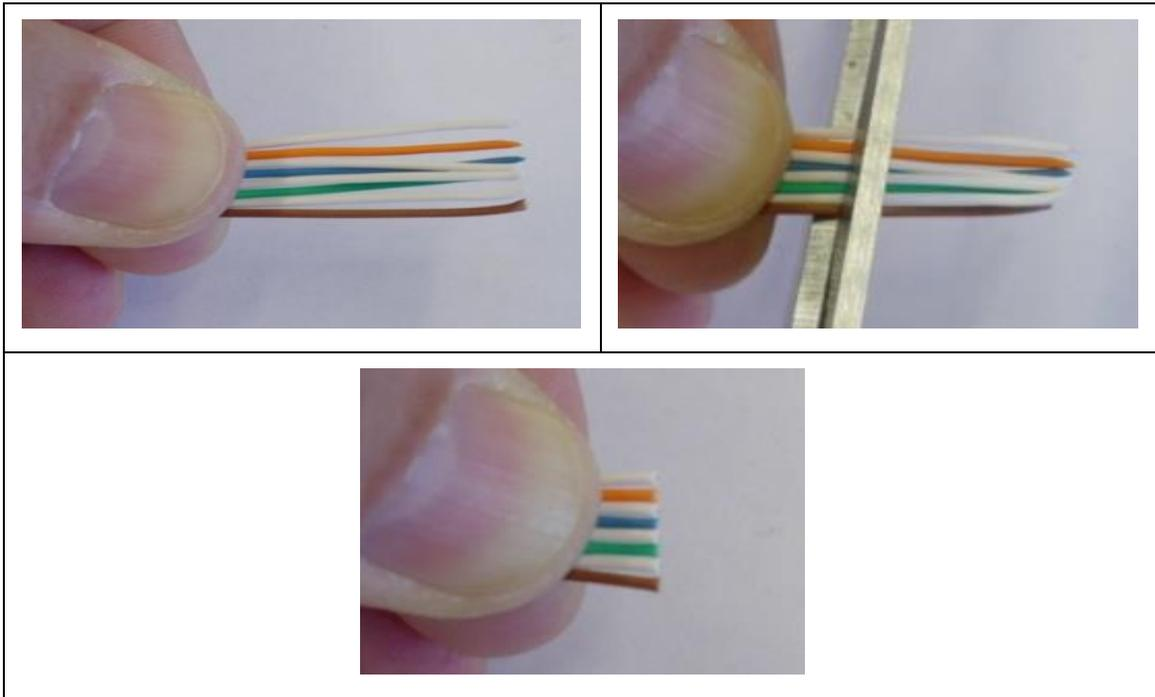

Figure 6. Trim Cable Pairs
3. While firmly holding the positioned pairs, make a preliminary cut to the pairs to help the insertion of the conductors into the wire holder. See Figure 6.